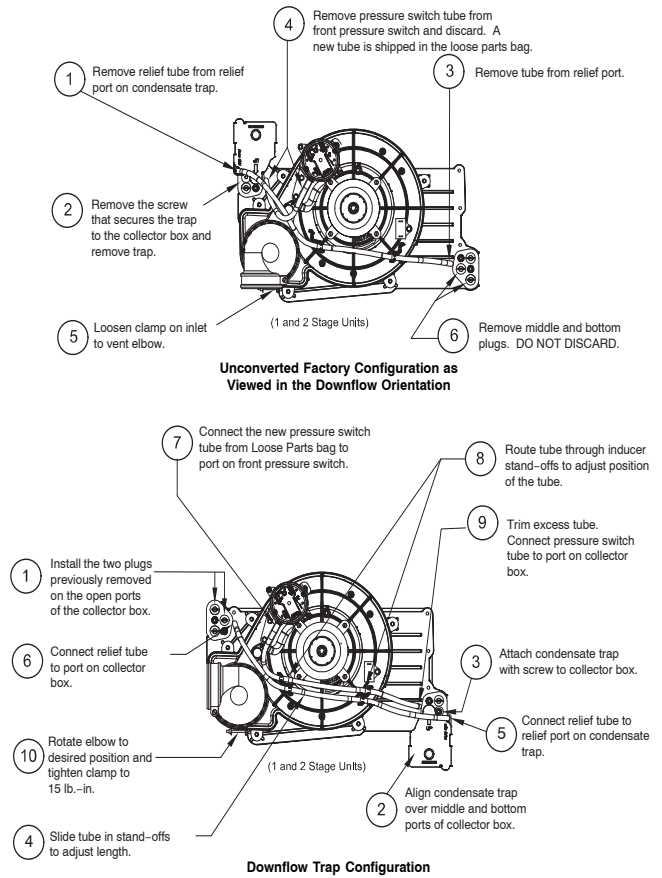

Fig. 9 – Downflow Trap Configuration
When the furnace is installed in the downflow position, the condensate trap will be initially located at the upper left corner of the collector box, as received from the factory. See the top image in Fig. 9. When the furnace is installed in the downflow orientation, the condensate trap must be relocated for proper condensate drainage. See the bottom image in Fig. 9.
- Fig. 9 shows the condensate trap and tubing before and after relocation. Refer to Fig. 9 to begin the trap conversion.